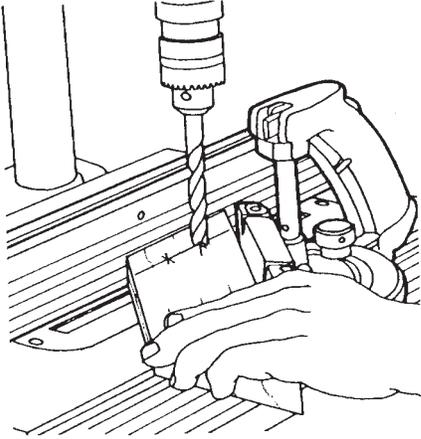

Figure D-31
1. The rip fence and the miter gauge can be locked on the table in a variety of different configurations to drill duplicate holes in duplicate pieces of stock. See Figs. D-31 through D-33.